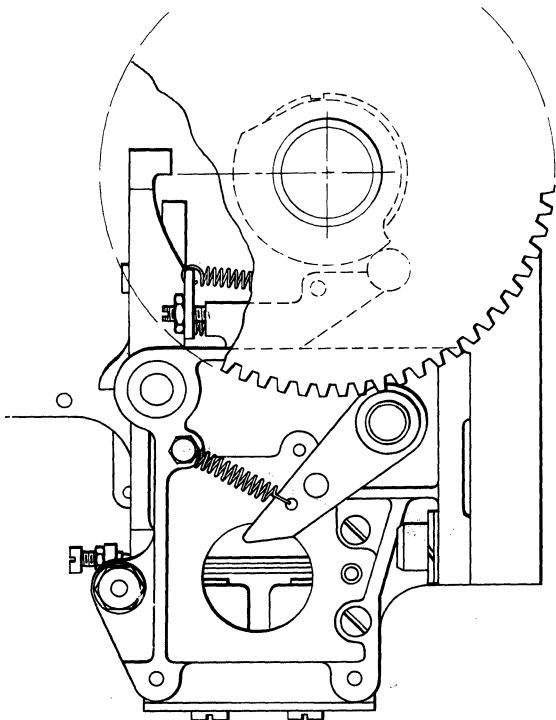

Figure 4-1. Punch Clutch Position
1. Set clutch so that latch arm is on the horizontal centerline of picker camshaft within $.005''$ (Figure 4-1).